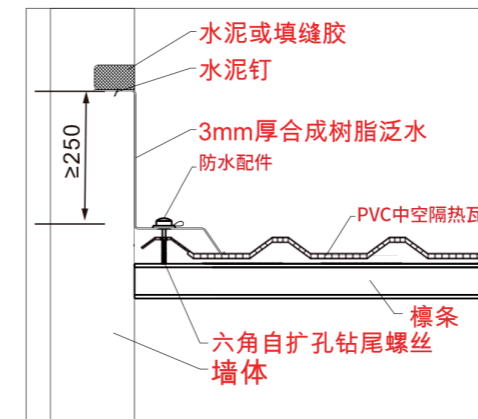

Figure 8
- 1 Method 1: Custom-made flashing using metal or synthetic resin sheets according to site dimensions. Drill a hole approximately 50x50mm in the wall, insert the flashing into the hole, and fix one end to the hole with nails (or cement nails), and the other end to the corrugated tile (see Figure 8).